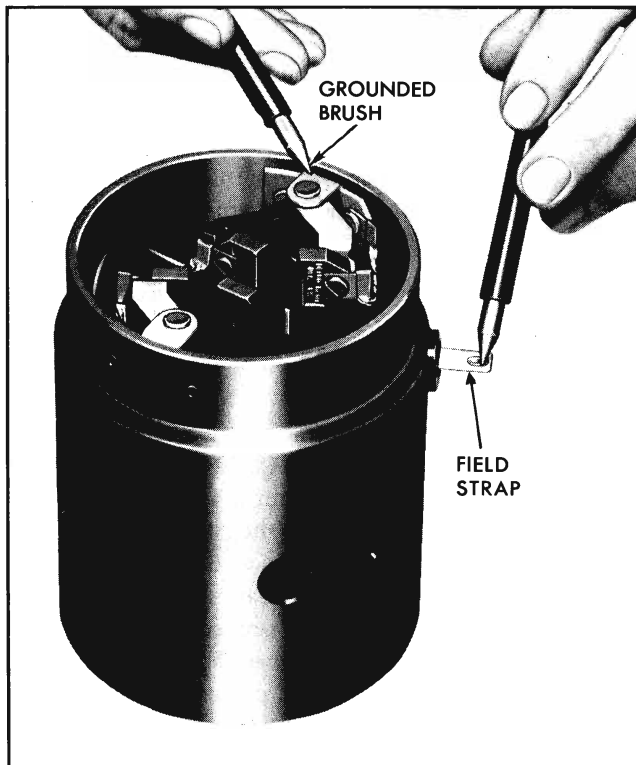

Fig. 11-9 Testing Field Coils for Ground
1. **Ground**—Touch one lead of the 110-volt test lamp to the grounded brush and the other lead to the field connector strap (Fig. 11-9). If the lamp lights, at least one field coil is grounded and the defective coil will require repair or replacement.